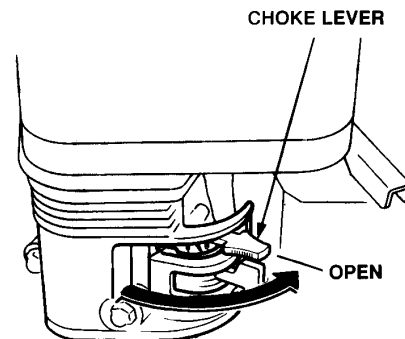

Figure 23. Choke Lever Open
4. Place the *choke lever* (Figure 23) in the "OPEN" position.